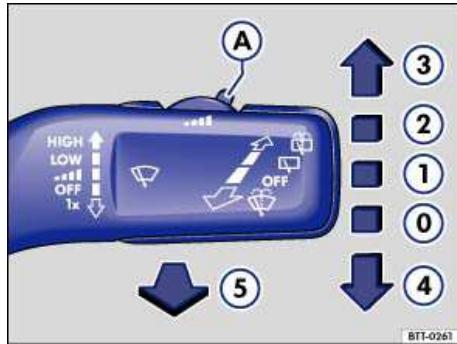

Fig. 91 Operating the front windshield wiper.
- Press the windshield wiper lever down briefly ⇒ fig. 91 (4) when the ignition is off.